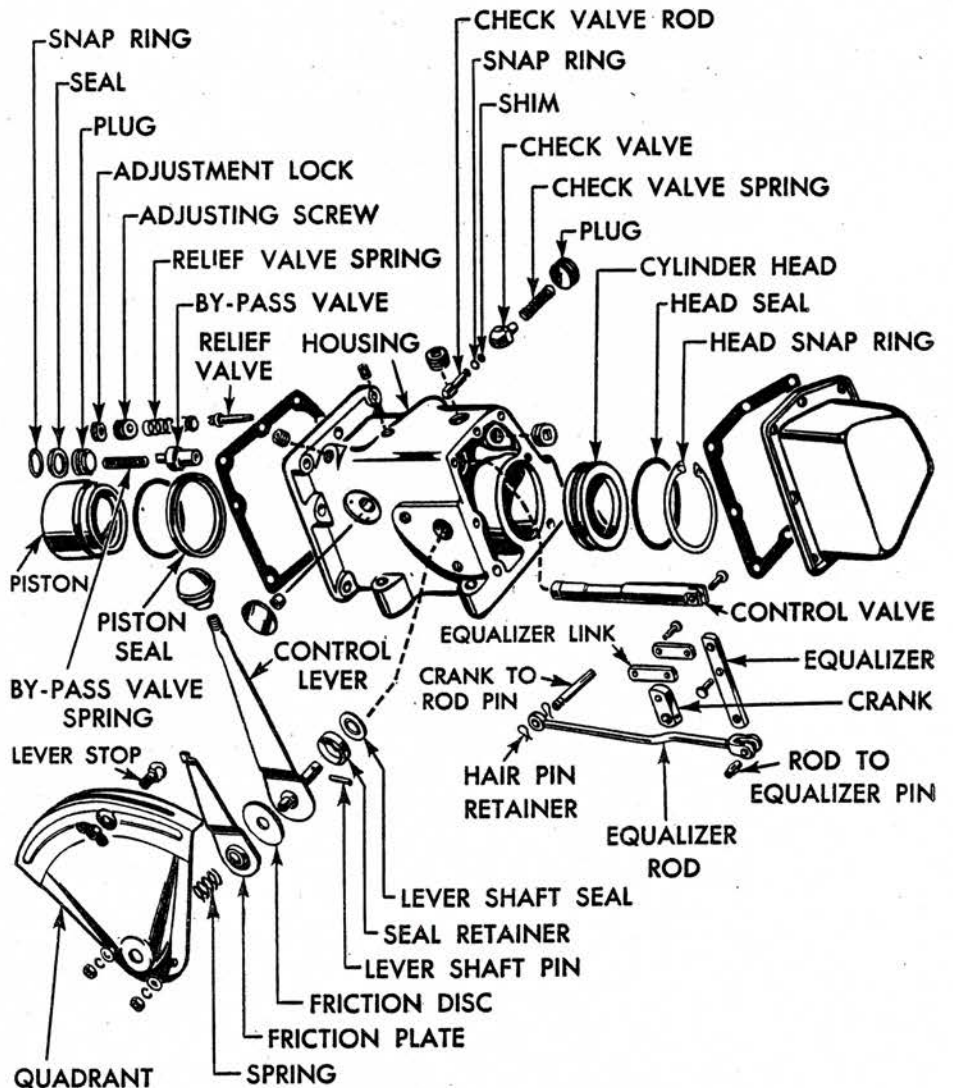

Fig. 65 Power lift valve housing details. Series M
**VALVE HOUSING**—Fig. 65. Take off the unit as directed above. Separate rock shaft housing from valve housing. Remove pipe plug and with a compressed air line, apply pressure through the plug hole to